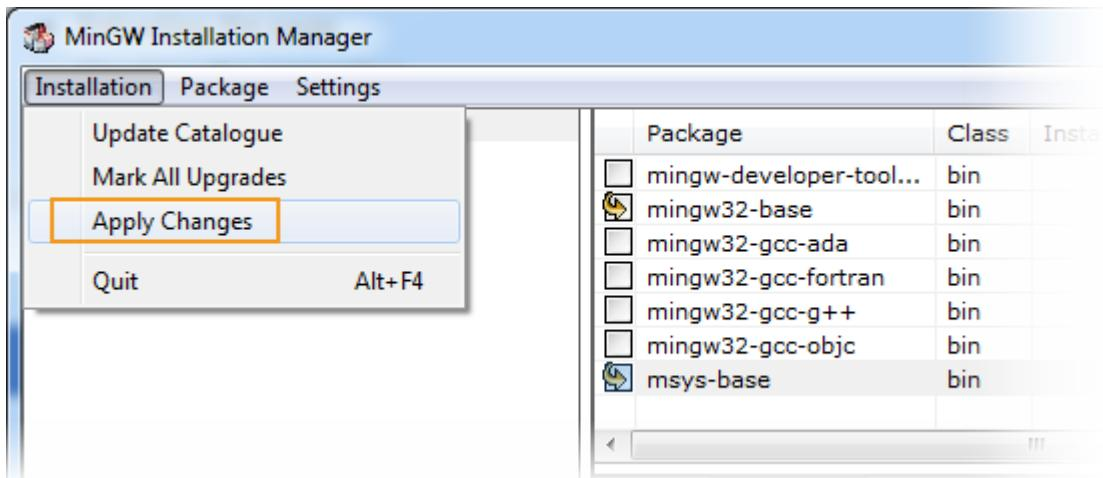

Figure 38. A basic MinGW installation
- 6) Click **Apply Changes** from the **Installation** menu (see Figure 38).